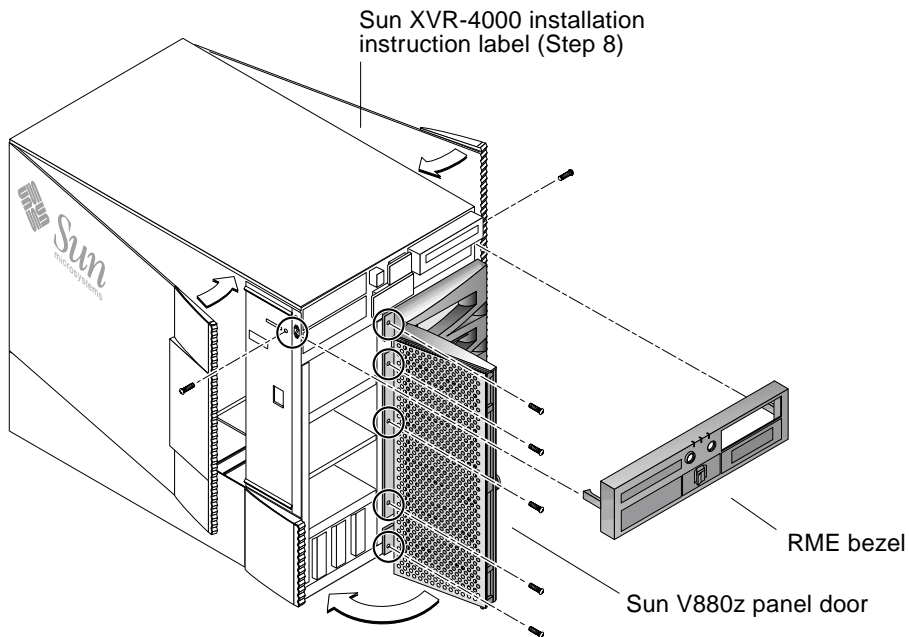

FIGURE D-2 Installing the Sun Fire V880z Server Front Bezel
5. **Position and slide the new Sun Fire V880z server front panel door into the chassis (FIGURE D-2).**
6. **Secure the panel door to the chassis center post by replacing the five Phillips screws (FIGURE D-2).**
7. **Replace the system RME console bezel (FIGURE D-2).**
8. **Place the Sun XVR-4000 installation label provided with the upgrade kit on the lower portion of the interior of the right enclosure door (FIGURE D-2).**